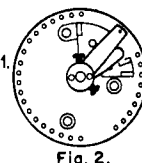

Fig. 2.
5. Rotate Contact Wiper Arm to Credit Position. (Fig. 2).